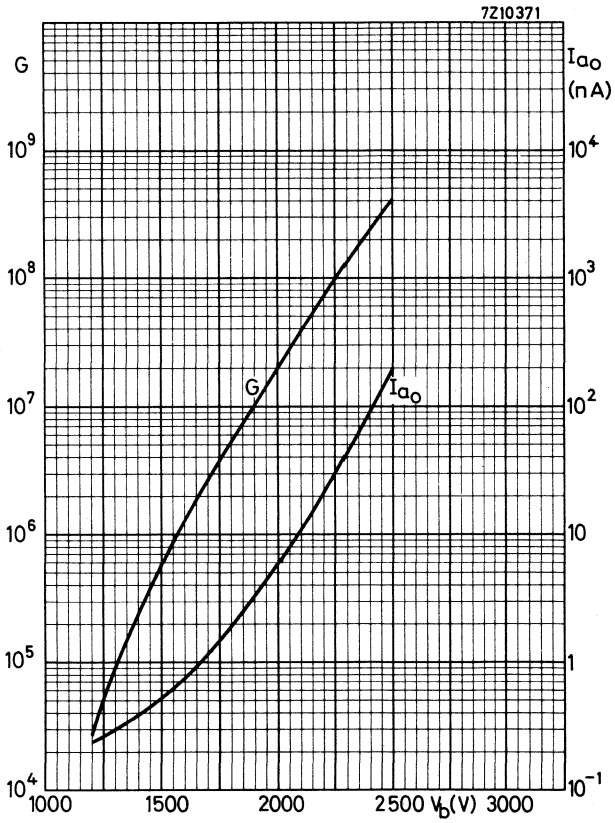

fig.1
- B. The multiplier system consists of 14 stages, providing a total current amplification of 10^8 at about 2250 V (see fig.1). The tube is capable of producing very strong peak currents (up to 1 A). Actually, the time constant at the output of the multiplier must be very small. Therefore it is necessary, taking into account the parasitic capacitances, to use a low load resistance. It is advisable to use a resistance-matched coaxial cable (e.g. 75 or 100 Ω). With this load the tube easily delivers pulses of tens of volts, so that an amplifier is rendered superfluous.